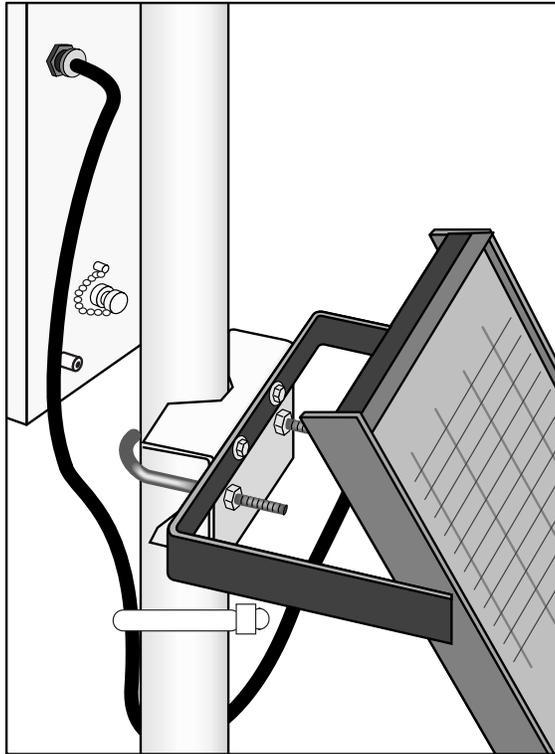

Figure 19
After determining the tilt angle, loosen the two bolts that attach the mounting bracket to the panel. Adjust the angle, and then tighten the bolts. Secure the lead wire to the mast using wire ties as show in Figure 19. Connect the plug at the end of the solar panel cable to the connector marked "Power". Make sure the plug is fully seated and the locking ring turned clockwise until it stops.
3. Loosen the mounting bracket bolts on the back of the enclosure wide enough to slide over the pole. Slide the enclosure over the pole. Position the enclosure so it faces east for northern latitudes or west for southern latitudes. The top of the enclosure should be 3/4" to 1" (2 – 2.5 cm) above the top of the pole (see Figure 19).